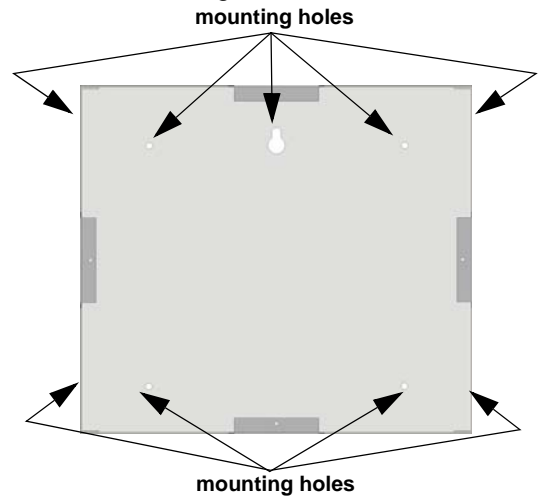

Figure 2: Backbox Mounting Holes
1. The backbox measures 9-3/8" W x 8-3/8" H. The backbox can be mounted prior to the complete installation of the 6855 using any of the mounting holes shown in Figure 2.